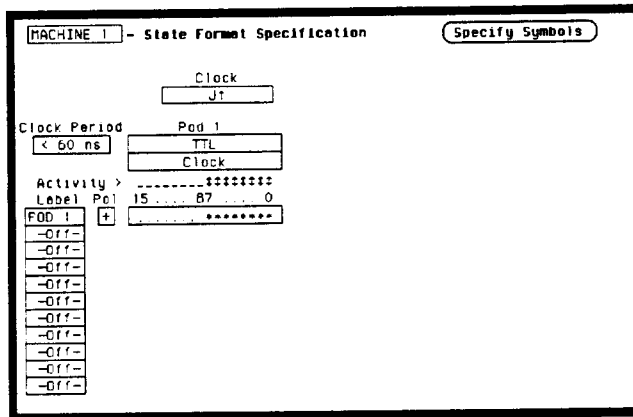

Figure 3-13. Format Specification for Data Test 2
4. In the **State Format Specification** assign the **Clock Period** to < 60 ns, and assign the rising edge of the J clock to the **Clock** field. Also, assign the lower 8 channels of the pod under test to a label as in figure 3-13.
- In the **State Format Specification** menu assign the **Clock Period** to **< 60 ns**, and the falling edge of J clock to the **Clock** field. Also, assign the lower 8 channels of the pod under test to a label as in the previous test figure 3-13.